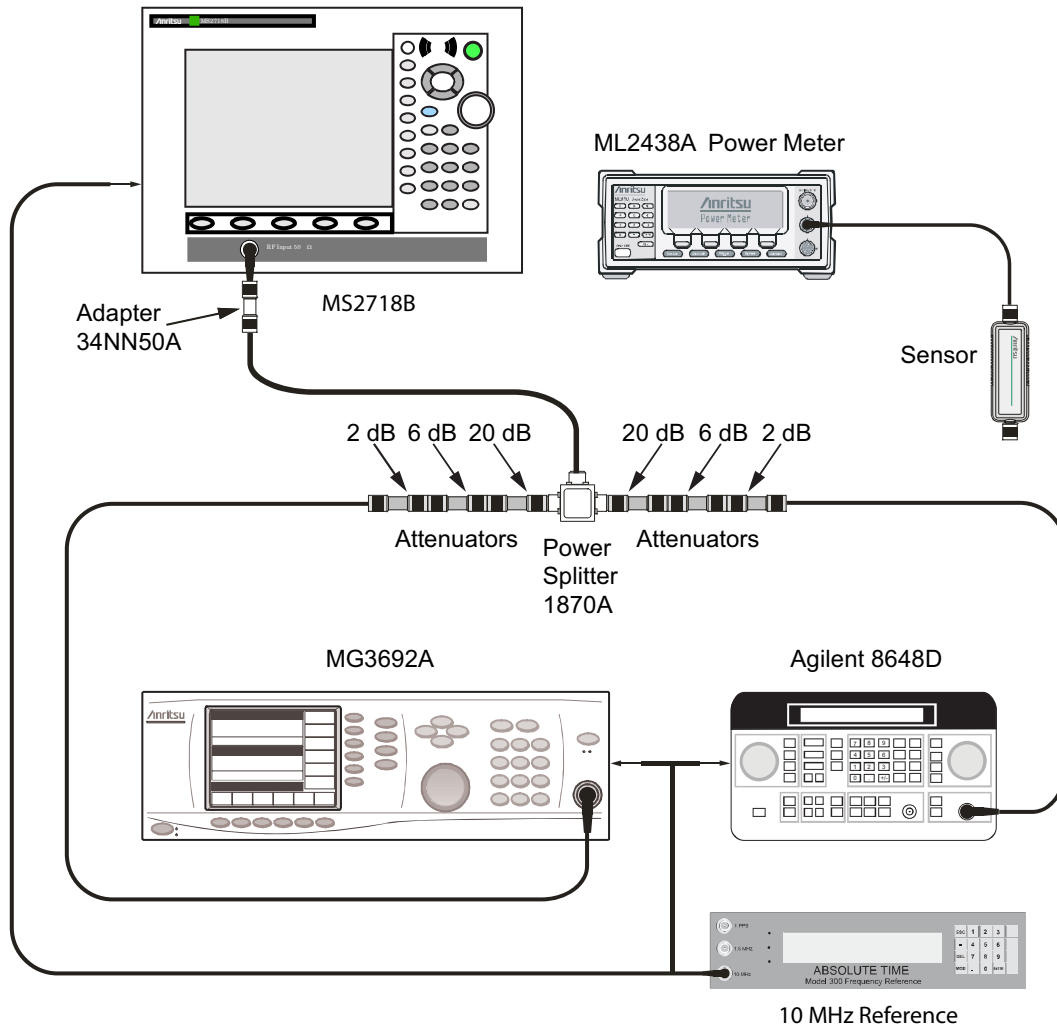

Figure 2-2. Third Order Intercept 2400 MHz Test Setup
9. Press the **Shift** key and the **Sweep** (3) key. Press **Detection**, and press **RMS** (red dot appears on the label).
10. Disconnect the power sensor from the output of the splitter, and connect the splitter output to the MS2718B, MS2719B Spectrum Analyzer RF In connector through the Anritsu Model 34NN50A adapter as shown in Figure 2-2.